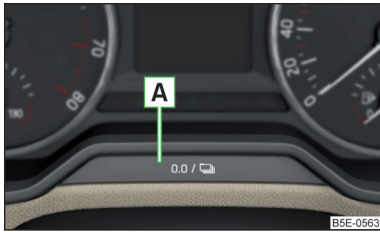

Fig. 27
» Press button **A** » Fig. 27 on page 31.
- › Press and hold the button **A** » Fig. 27 until the **Time** is shown in the display.